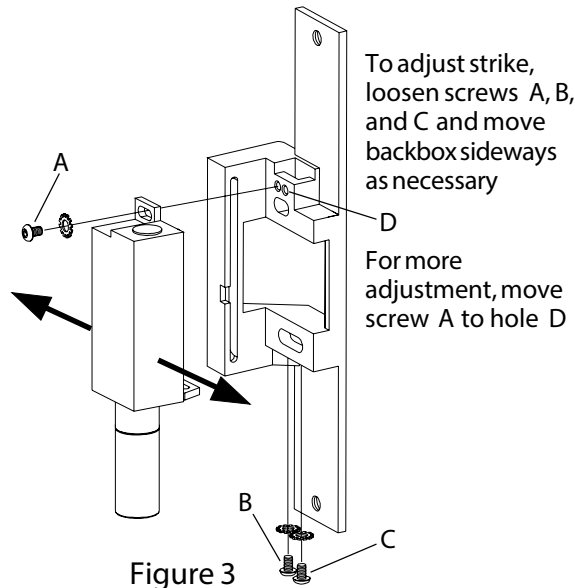

Figure 3
5. Install strike with two #12-24 screws. Make sure clearance between latch bolt and strike lip is $1/32''$ (Figure 2). If not, uninstall strike, adjust (Figure 3), and reinstall.